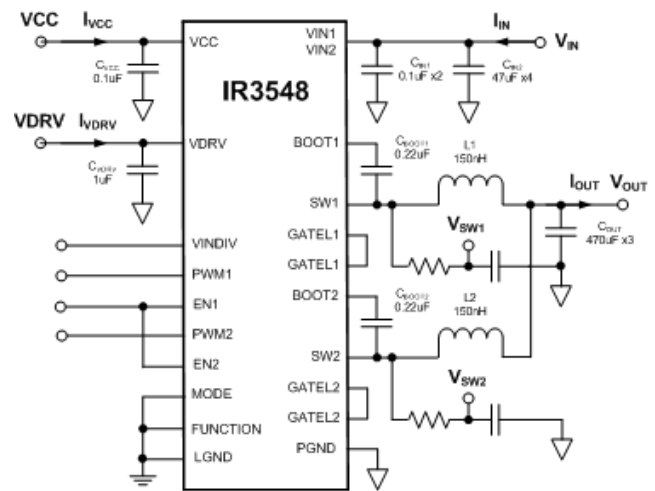

Figure 34: IR3548 Power Loss Measurement
Circuit of Figure 34,  $V_{IN}=12V$ ,  $V_{OUT}=1.2V$ ,  $f_{SW} = 400kHz$ ,  $L=150nH$  ( $0.29m\Omega$ ), Two Phases, Dual Driver, PWM Mode,  $V_{CC}= 5V$ ,  $V_{DRV}=7V$ ,  $T_{AMBIENT} = 25^{\circ}C$ , no heat sink, no air flow, 8-layer PCB board of 3.7"(L) x 2.6"(W), no PWM controller loss, no inductor loss, unless specified otherwise.
The two-phase IR3548 efficiency and power loss measurement circuit is shown in Figure 34.